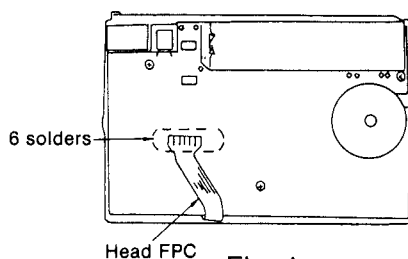

Fig. 4
2. Remove 6 solders (Head FPC). (See Fig. 4.)